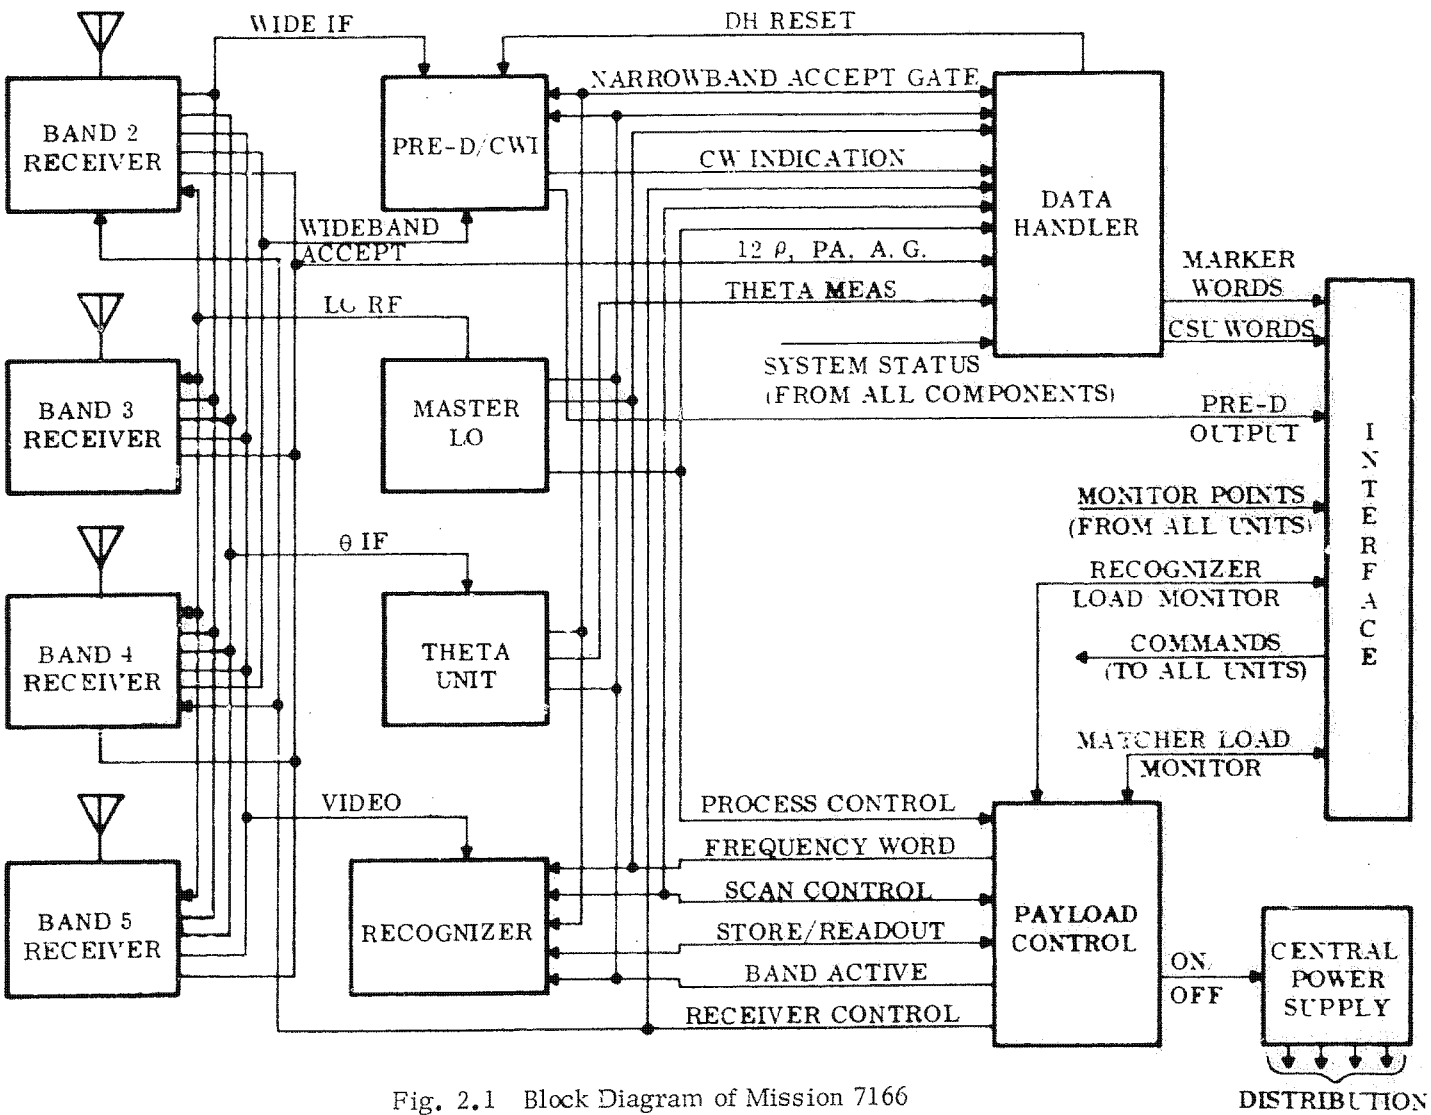

Fig. 2.1 Block Diagram of Mission 7166
Mission 7166 is a frequency scanning, electronic reconnaissance system which intercepts pulsed and continuous wave (CW) radiation from 125 to 2100 MHz. The payload can collect Electronic Order of Battle (EOB) or Technical Intelligence (TI) data. In the EOB mode, the payload digitizes the frequency, pulse repetition interval (PRI), pulse width (PW), pulse amplitude (PA), time of intercept, and relative position of the intercepted signal. When in the TI mode, the payload records 5 MHz predetected analog data in addition to the digital information just discussed. The major components of the payload are the antennas, the receivers, the recognizers, the frequency matchers, and the Pre-D/CWI unit; each will be discussed. Figure 2.1 is a block diagram of the payload. Table 2.1 shows the payload characteristics.